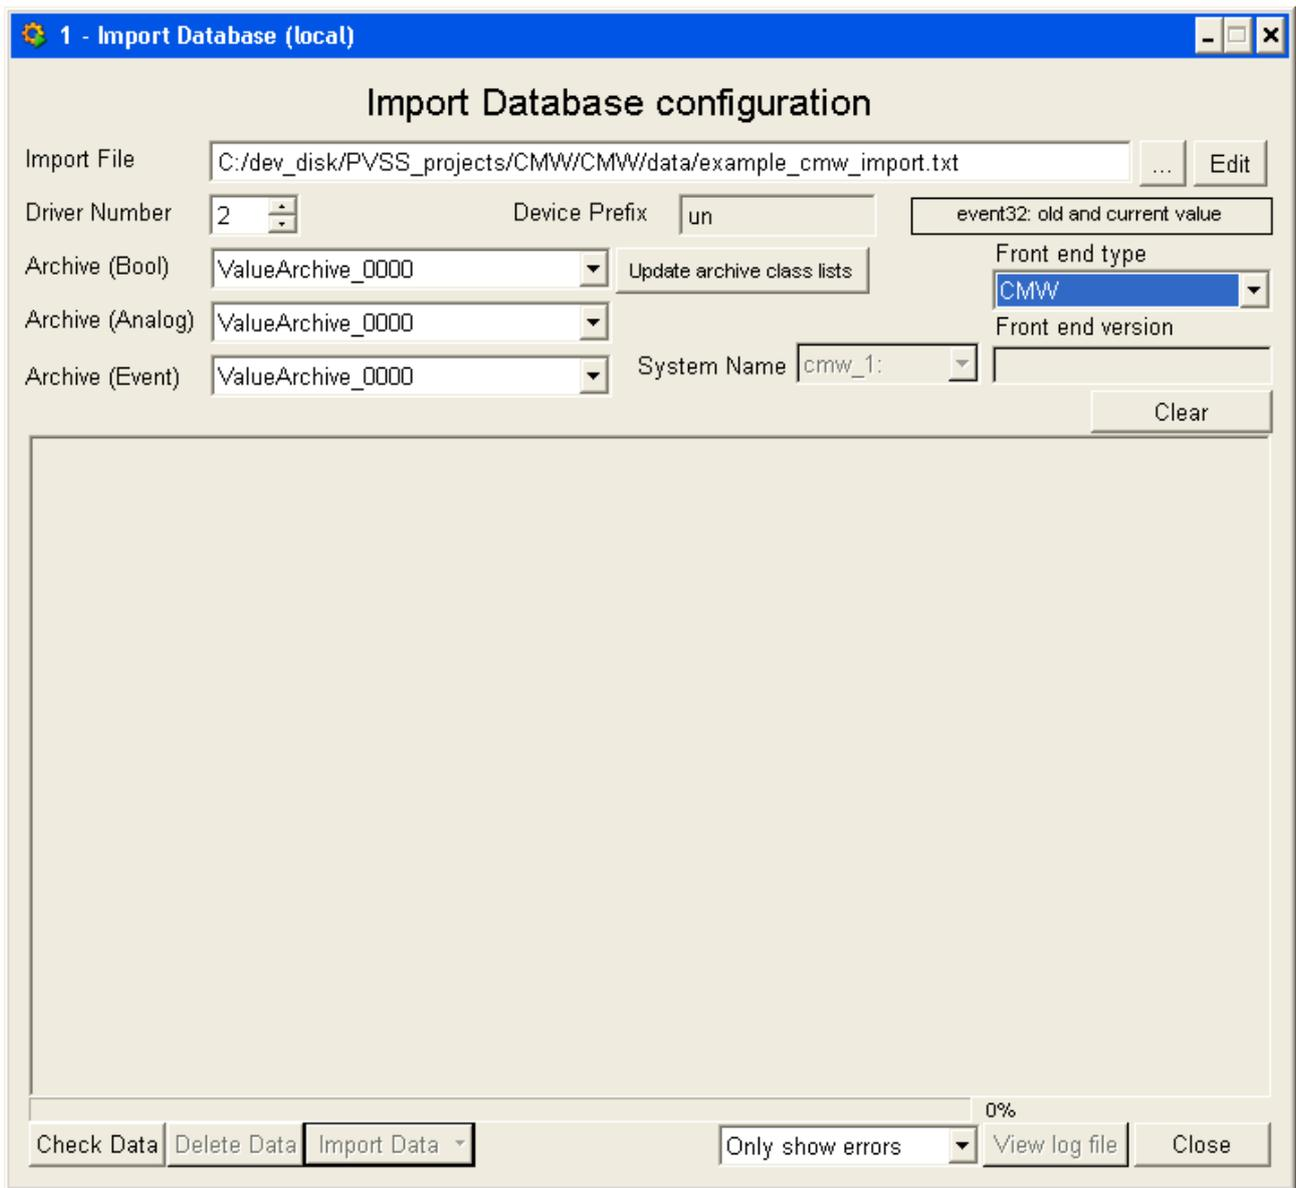

Figure 3: import the CMW front-end and devices.
- start the PVSS00sim -num 2 and import the file 'example_cmw_import.txt' with driver 2 and 'CMW' as front-end type (Figure 3).